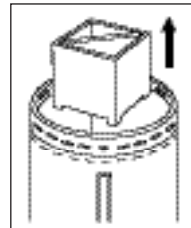

Fig.3
**A) Remove all packing materials from heater. (Fig. 3)**